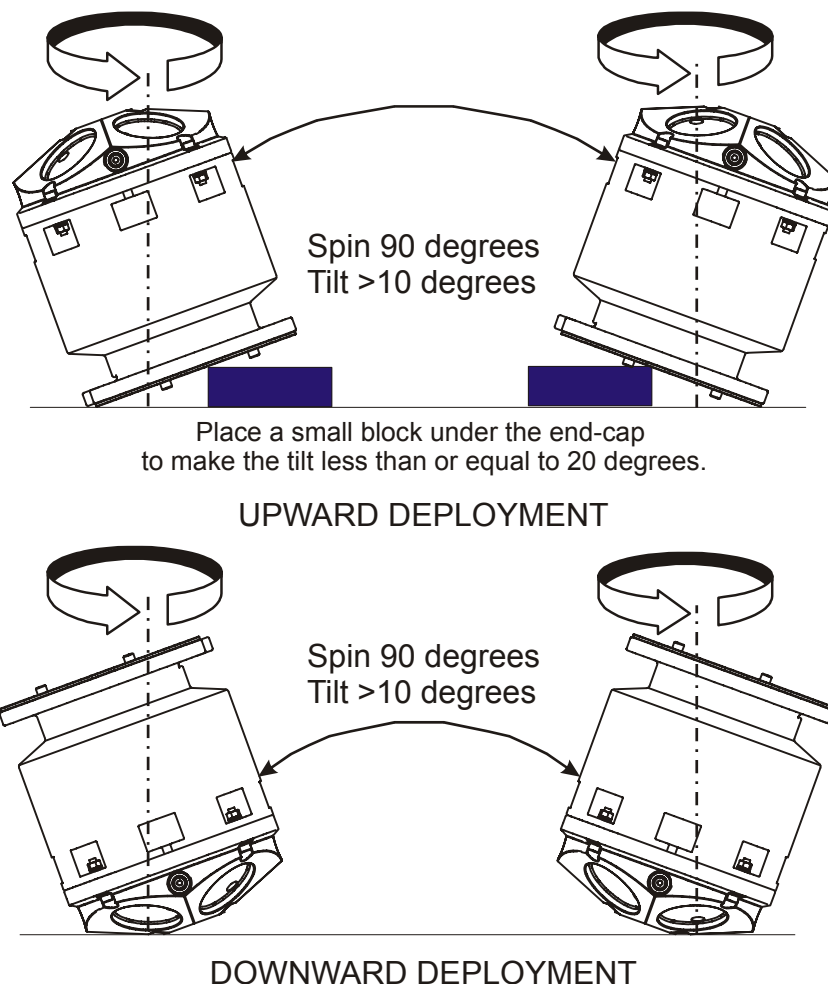

Figure 16. Compass Calibration
- d. Tilt the DVL (see Figure 16, page 67). Tilt an upward-looking Navigator with a block under one side of the end-cap. A 35-mm thick block will give you an 11-degree tilt. Check the on-screen instructions to see if the orientation is OK. Adjust as necessary.
- f. The second rotation requires the DVL to be tilted 15 degrees in another direction than from the first rotation (see Figure 16, page 67). Follow the on-screen instructions to orient the DVL correctly. When prompted, rotate the DVL slowly 360 degrees (approximately 5 degrees per second).